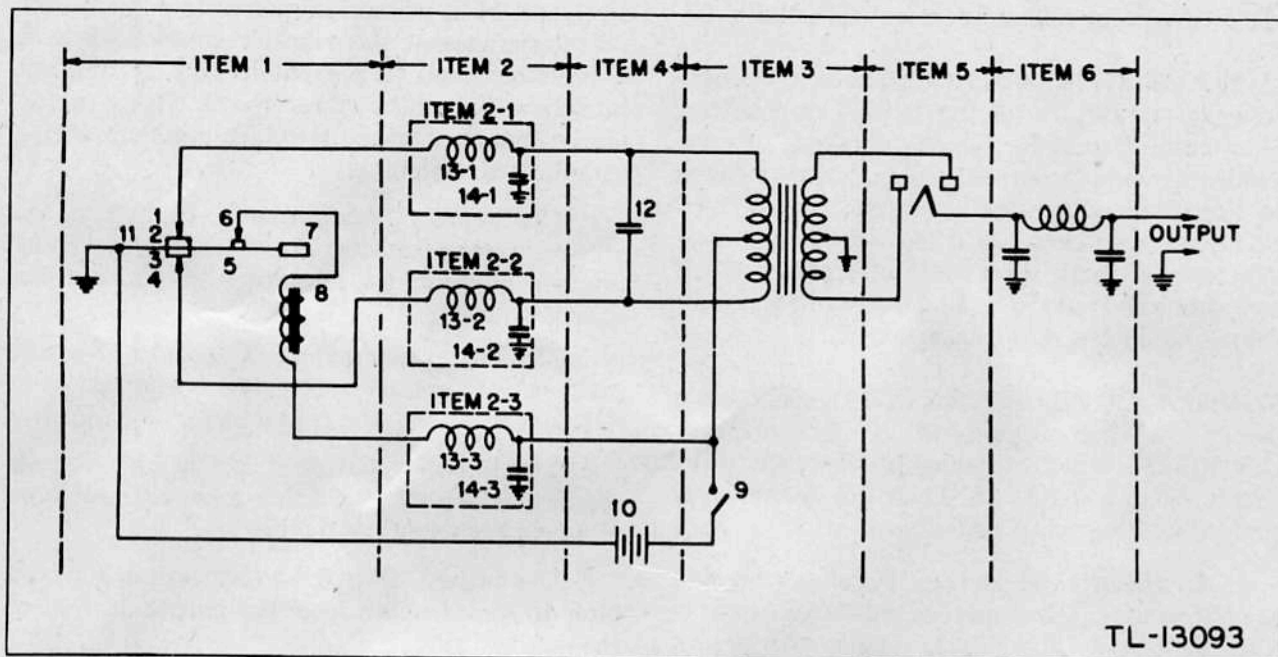

Figure 28. Schematic diagram of basic vibrator circuit.
67. VIBRATOR POWER UNIT PE-237. The basic theory of a power supply, such as Vibrator Power Unit PE-237, is best explained by reference to the circuit shown in figure 28. There are six principal components to such a system:
(1) A set of driving contacts. The purpose of the driving contacts is to operate the reed of the vibrator in much the same fashion as an electric buzzer. When switch 9 (fig. 28) is closed, power from battery 10 flows through reed 11, through contacts 5 and 6, through coil 8, and back to the opposite terminal of the battery. As soon as the current flows through coil 8, a magnetic field is built up which pulls armature 7 (a small iron weight on the end of the reed) toward the pole-piece of the coil. When this happens, the movement of the reed separates contact 5 from contact 6, interrupting the current. This stops the magnetic pull on the armature and allows the reed to move back to its former position again, closing the contacts. This cycle of vibration continues until the switch is opened. Power contacts 1, 2, 3, and 4 are operated by the vibration of the reed.
(2) A set of power contacts. The purpose of the power contacts is to connect the battery alternately first to one end of the center-tapped primary of the power transformer, then to the other. This reversing of direction of flow of current simulates alternating current and permits the transformer to step up the applied battery voltage to the high voltage required for B voltage.